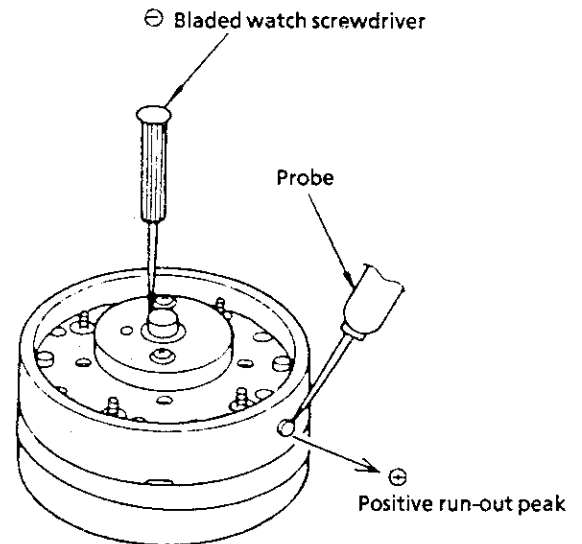

Figure. 2-26
- (2) Turn the 'zero' adjusting knob of micro checker so that the needle points '0'.
- (3) Turn the upper drum slowly with care not to put force to it, and check that upper drum peripheral swing is within 4 μm . If not, loosen two upper drum fixing screws and make the adjustment as follows: As shown in Fig 2-26, to begin with, insert a watch screwdriver between the upper drum in opposite side of (+) peak direction of upper drum peripheral swing and shaft. Move upper drum in the opposite side of (+) peak direction to make the peripheral swing within 4 μm . (See Fig. 2-26) Then, tighten the upper drum fixing screws and measure the peripheral swing. Check that it is within 4 μm the upper drum fixing screws should be tightened to the torque of $2.0 \pm 0.2\text{kg}\cdot\text{cm}$.